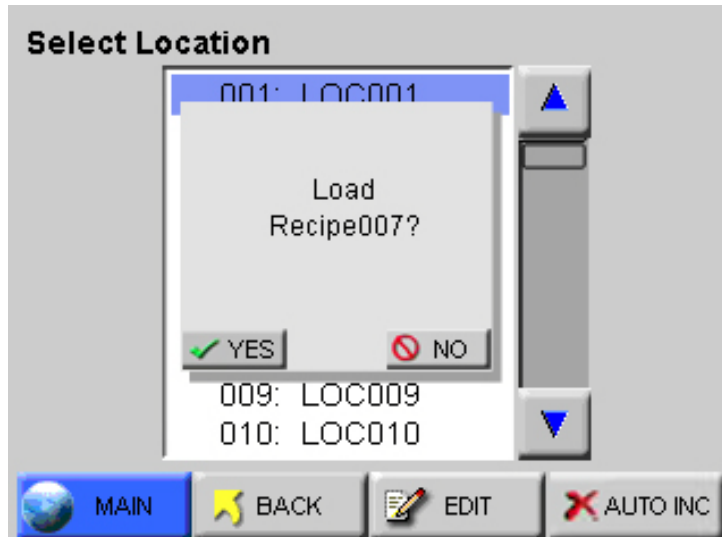

Figure 5-45 Location - Load Recipe
- When selecting a location with a recipe, the user is provided with the option of loading the recipe as shown in Figure 5-45. If the user chooses not to load the recipe, the location can still be used with the current settings.